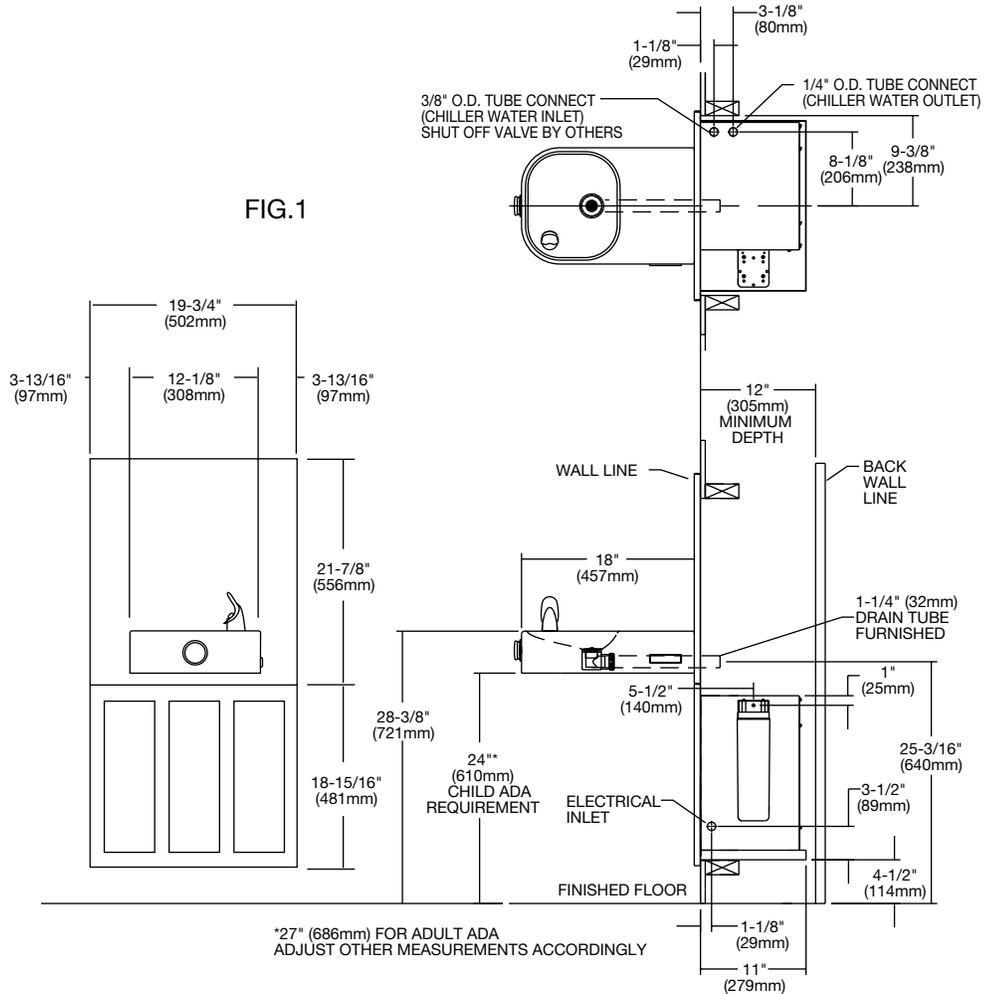

FIG. 1
**NOTE:** Building construction must allow for adequate air flow on both sides and top of remote chiller unit. Minimum of 4" (102mm) is required. (See Figures 1 & 2)
**3. Install plumbing and electrical rough-ins.** See Figure 1 for location of the supply water inlet to chiller and for the location of the waste water outlet. A junction box for a (3) wire, 10 amp branch circuit is provided on the inside of the chiller. (Standard 120 Volts, 60 Hz and single phase) See Figure 2 for the electrical inlet location.
**4. Remove frame assembly and related hardware** from packaging. Attach the two frames together thru the upright supports with (4) 5/16" x 3/4" (19mm) long bolts and nuts (provided). Tighten securely.
**5. Install the frame assembly** squarely in wall opening with frame upright support edges flush with the finished wall face. Secure the frame to the wall thru holes with (4) 5/16" x 2" (51mm) long lag bolts or screws (not provided). Tighten securely.